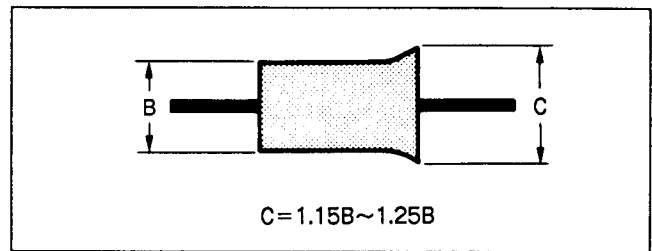

Fig. 7-82.
- 5) Raise the exit side waveform slightly by rotating No.5 guide. (See Fig. 7-82.)